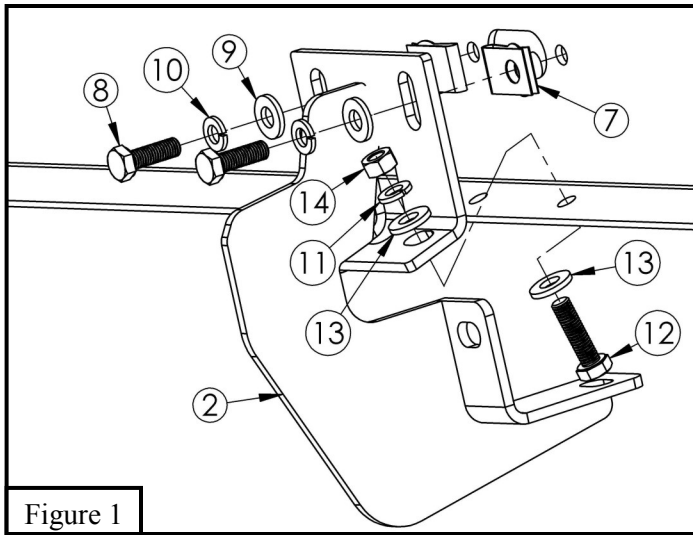

Figure 1
- Start installation on driver's side. Remove factory tape covering holes on the rocker panel. These holes will be where the M8 extruded u-nuts (Item 7) will be installed. **See Figures 1 and 2.**
- Hold up front/rear mounting bracket (Items 2/3 (front) or Items 5/6 (rear)) and loosely install (2) M8 hex head cap screws (Item 8), (2) M8 flat washers (Item 9) and (2) M8 split lock washers (Item 10) into previously installed M8 extruded u-nuts. Then loosely install M8 hardware to mounting bracket and holes in pinch weld; (2) M8 hex head cap screws (Item 12), (4) M8 flat washers (Item 13), (2) M8 split lock washers (Item 11) and (2) M8 hex nuts. Similar installation for center mounting bracket. **See Figures 1 and 2.** (Note: See page 2 for bracket orientation).